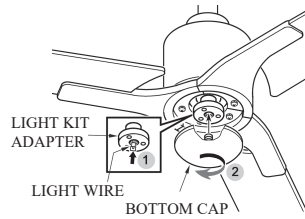

FIG.16
2. Insert the light kit wire plug into the shaft and then twist the cap onto the motor shaft clockwise to fit it on the motor.(See Fig.16)